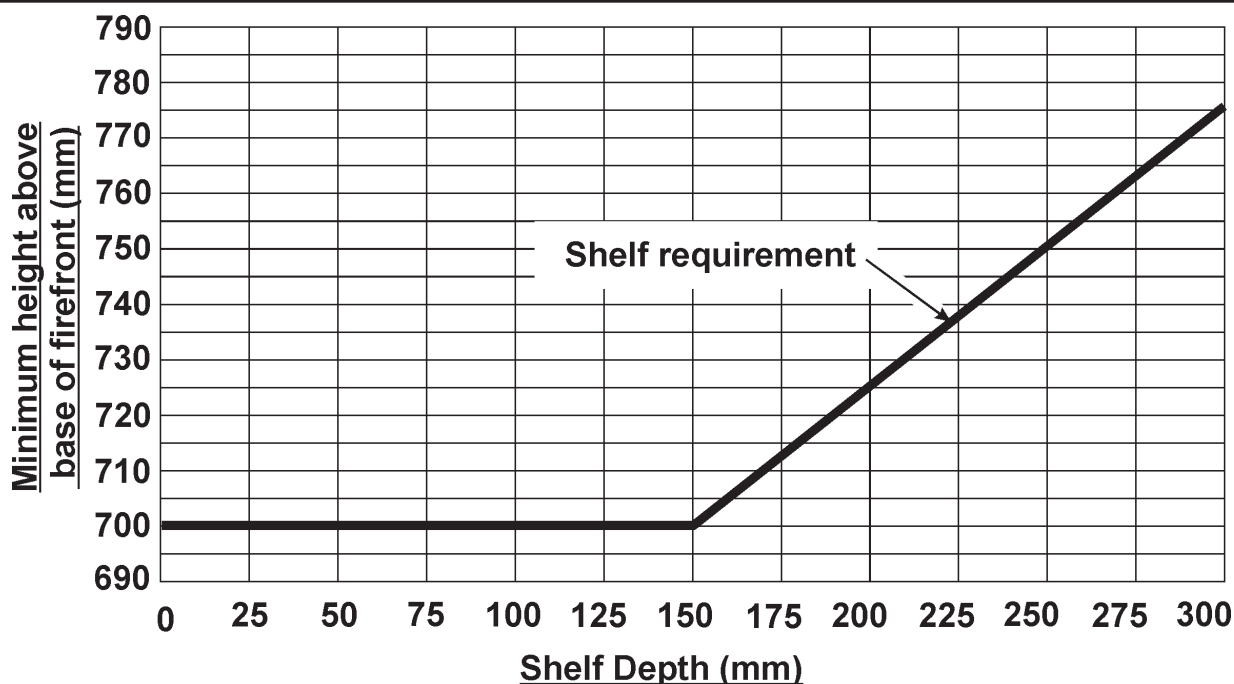

Figure 3. Combustible shelf clearances
- *For a shelf deeper than 150mm:* 700mm + 12.5mm for every 25mm depth over 150mm (See Figure 3).